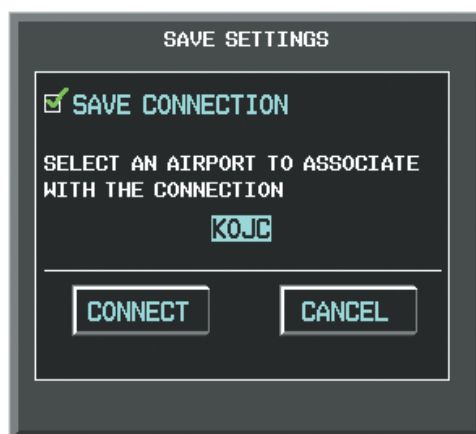

Figure 8-101 Save Connection
- a) Press the **ENT** Key. A checkmark is placed in the checkbox and the cursor moves to the airport field as shown in Figure 8-101.